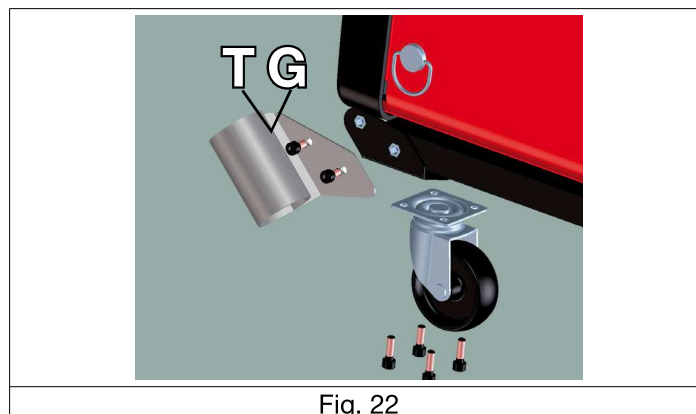

Fig. 22
Nel carrello trainafilo (G) montare la ruota anteriore destra con il porta torcia destro (TG) come da fig 22.
*In the wire feed unit (G) fit the right front wheel with the right torch holder (TG) as shown in fig 22.*